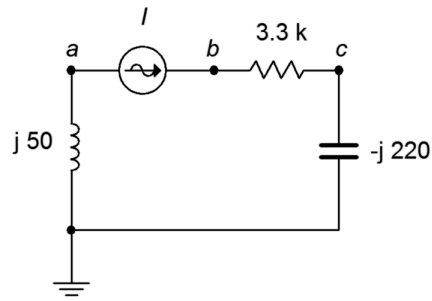

Figure 2.34
52. For the circuit of Figure 2.34, determine the voltages across each component. The source is 20 mA peak at 100 kHz.